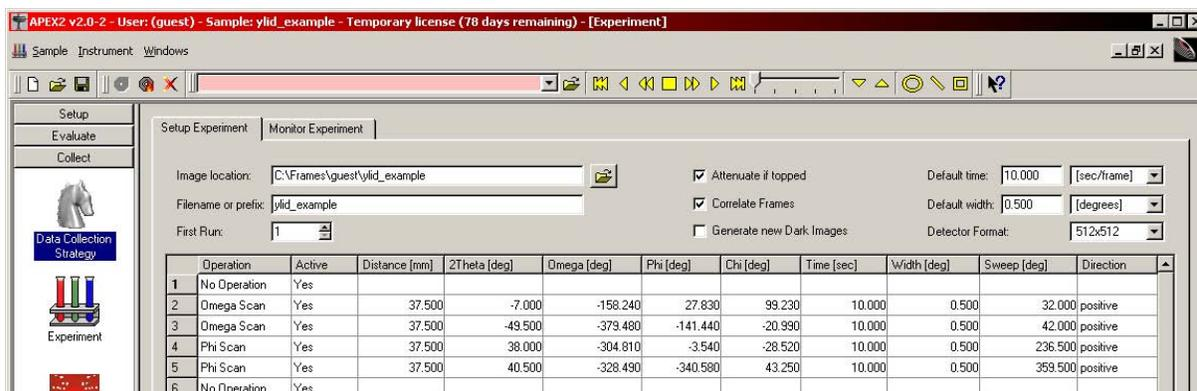

Figure 6.19 – Experiment view with strategy appended
**NOTE:** At the top of the Setup Experiment tab are controls for data collection. Usually, the default values are correct. For data collection times of less than five seconds, correlation can usually be turned off. If new dark frames are required, BIS will automatically collect them. Checking “Generate New Darks” forces the collection of darks before every run. In Figure 6.19, the time and width are explicitly set for each run, so changing the default width and time will have no effect. If the explicit time or width for a run is deleted so that the box is empty, the word “default” appears and the default values at the top right will be used.